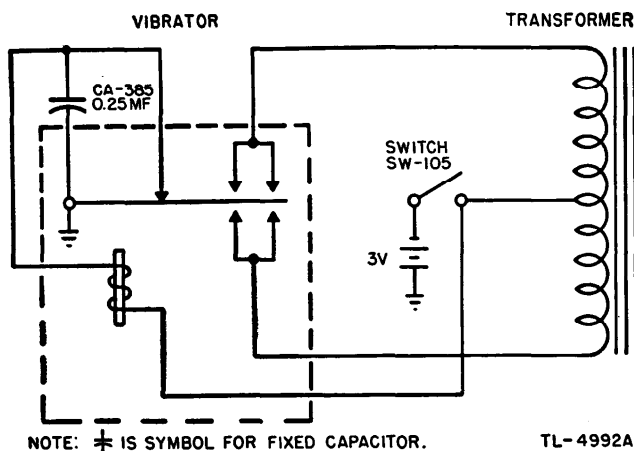
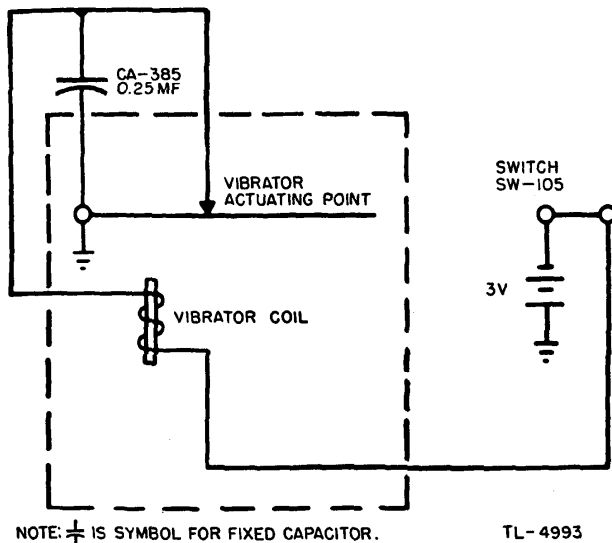
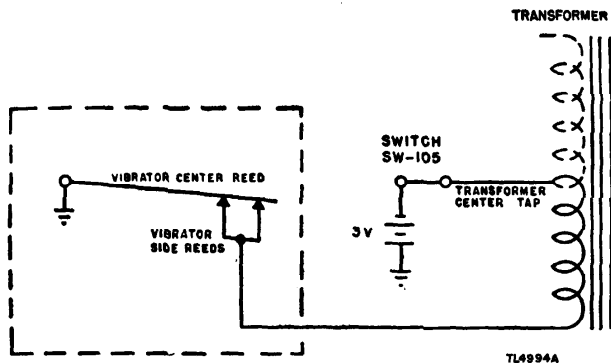

Figure 9. Converter M-222—functional diagram of input circuit.
Figure 10. Converter M-222—functional diagram of vibrator actuating point circuit.
Figure 11. Converter M-222—functional diagram of vibrator circuit, first half cycle.
The input circuit (fig. 9) consists of the vibrator, the tapped transformer primary, Switch SW-105, two Batteries BA-23, and Capacitor CA-385. The input current flows from the batteries through Switch SW-105 (ON), the vibrator coil, the vibrator actuating point, the vibrator center reed, and back to the batteries. (See fig. 10.) The vibrator starts and causes the center reed to make contact with one set of side reeds. Capacitor CA-385, the actuating point capacitor, quenches the arc caused by opening of the actuating point. With one set of side reeds closed, current flows through the center tap of the transformer, one-half of the tap of the transformer winding, one set of the vibrator side reeds, the vibrator center reed, and back to the batteries. (See fig. 11.) On the other half-